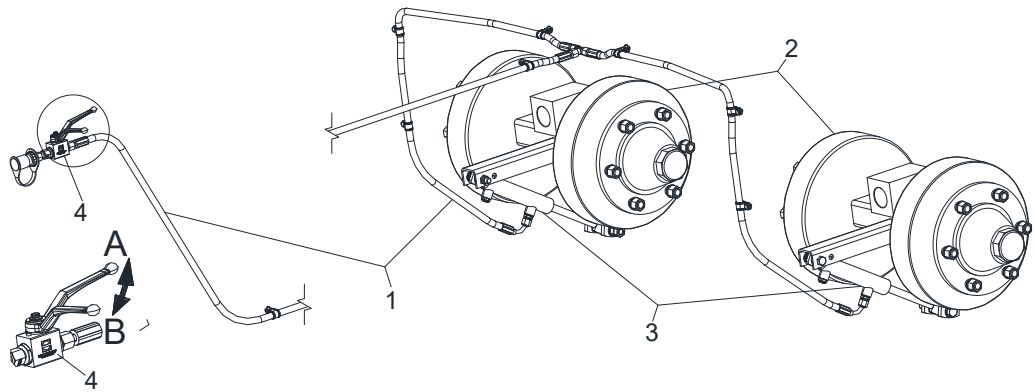

Fig. 18 Hydraulic brake system
- Brake line (Fig. 18/1)
- Brake axle with drum brake (Fig. 18/2)
- Brake cylinder (Fig. 18/3).
- Block ball valve (Fig. 18/4)